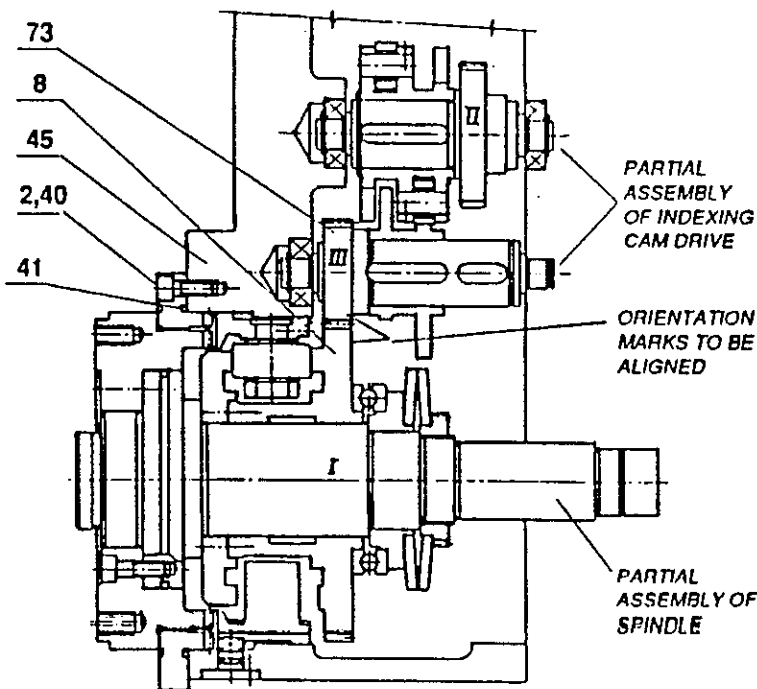

FIG 17.7
17.3 Intermediate Assembly of Spindle and Indexing drive (Axis I, II and III) in main Body : fig 17.7.